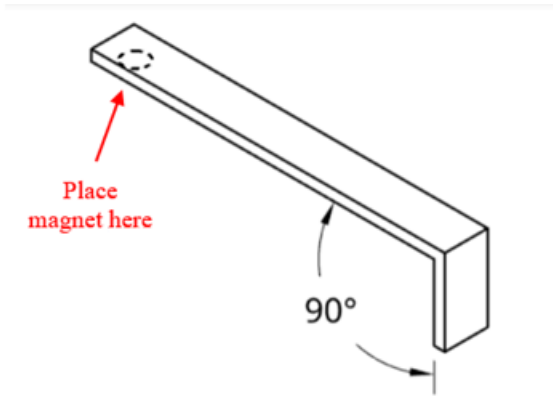

Figure 17. Manufacturing Steps 17 & 19
17. Bend the sheet metal 90° at the marked line using the break (see figure 17).